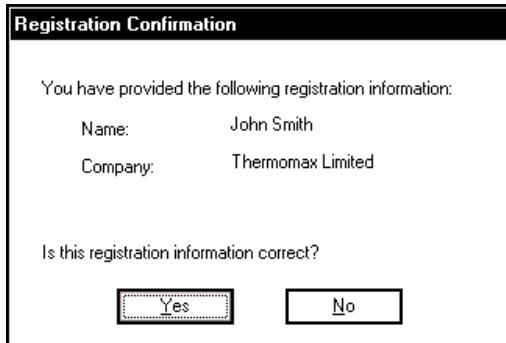

Figure 1.6, Registration Confirmation
- Once **Next >** has been pressed, the user will be asked to confirm that the information entered was correct. This is illustrated in **Figure 1.6**.